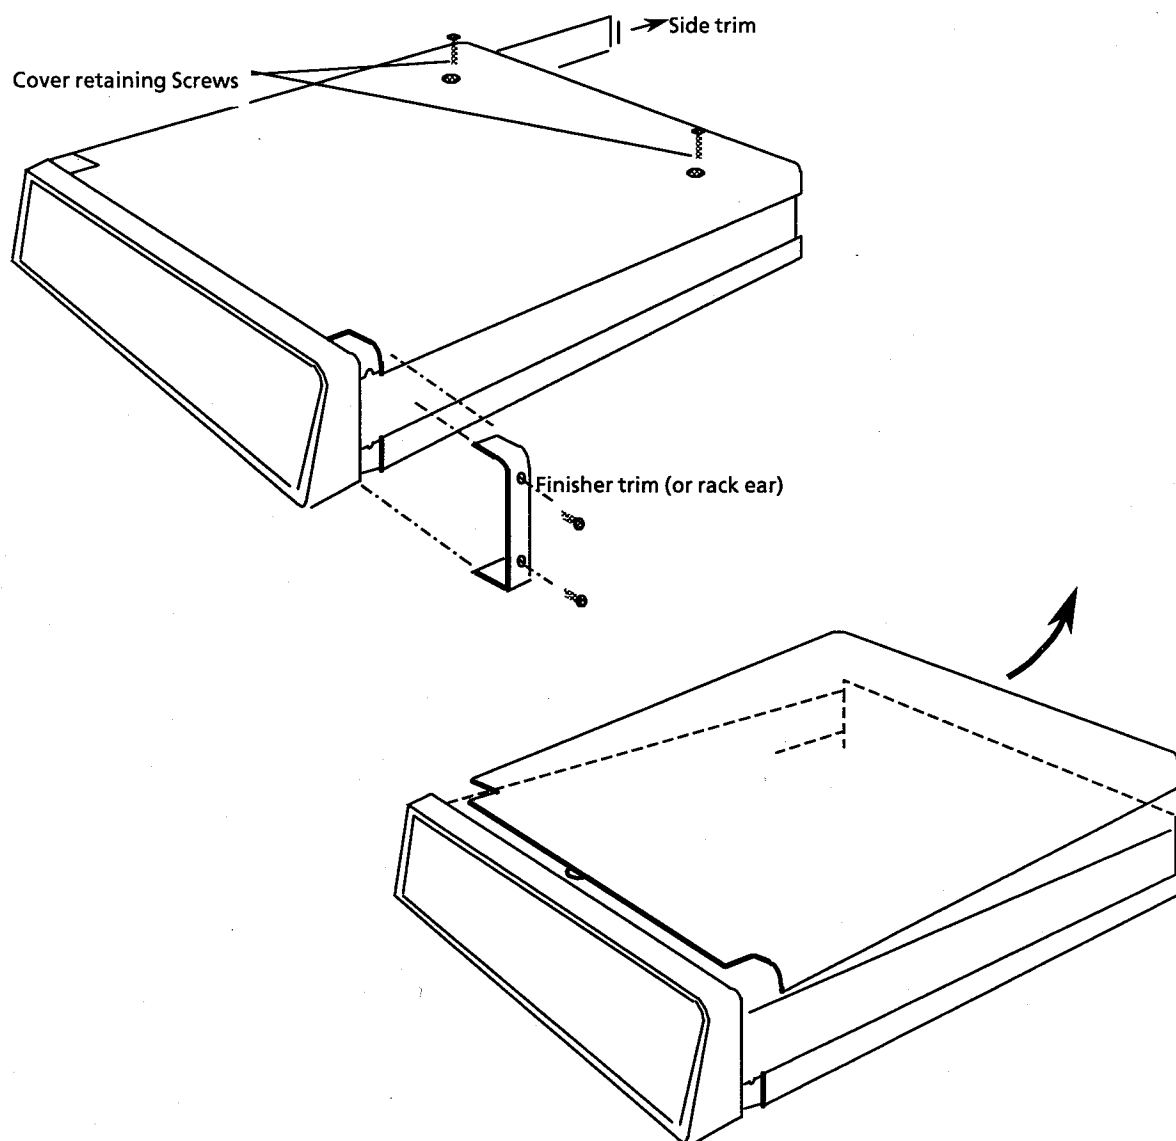

Fig. 2.3 *Top Cover Removal*
- b. Remove the finishers and left hand side trim as indicated in Fig. 2.3. If a rack mounting kit is fitted only the rack ears need be removed.